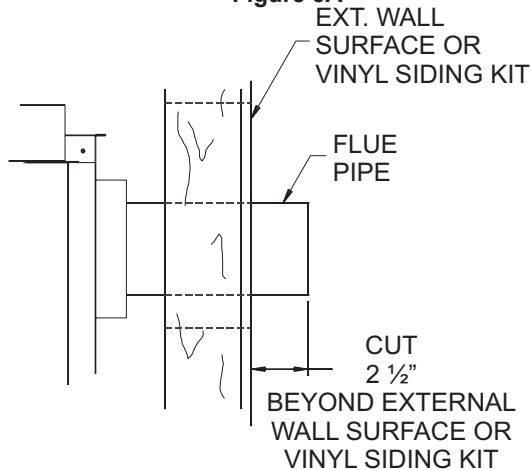

Figure 3B
- Attach the 4" (102mm) diameter flue outlet tube onto the rigid venting system or directly to fireplace. Ensure the 4" (102mm) diameter flue outlet tube is placed as far as possible onto the rigid venting system. Mark the 4" (102mm) diameter flue outlet tube 2 1/2" (64mm) beyond the vinyl siding kit or wall. See Figure 3B. Remove the 4" (102mm) diameter flue outlet tube from rigid venting system. When installing directly to fireplace, tape gasket needs to be used.